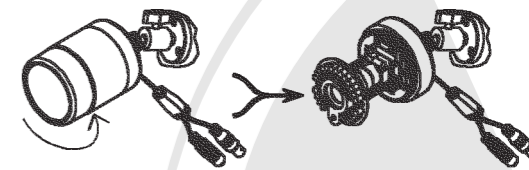

Figure 3
STEP 1: Turn loose the camera housing (as shown in Figure 3).